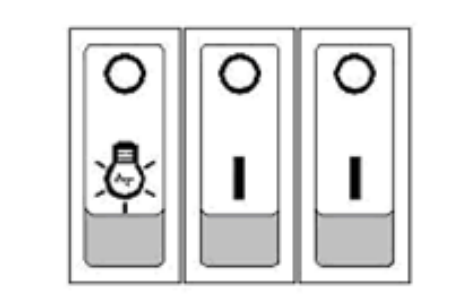

Figure 4
- The first switch marked with a light bulb controls the lamp and flame effect as shown in **Figure 4**.